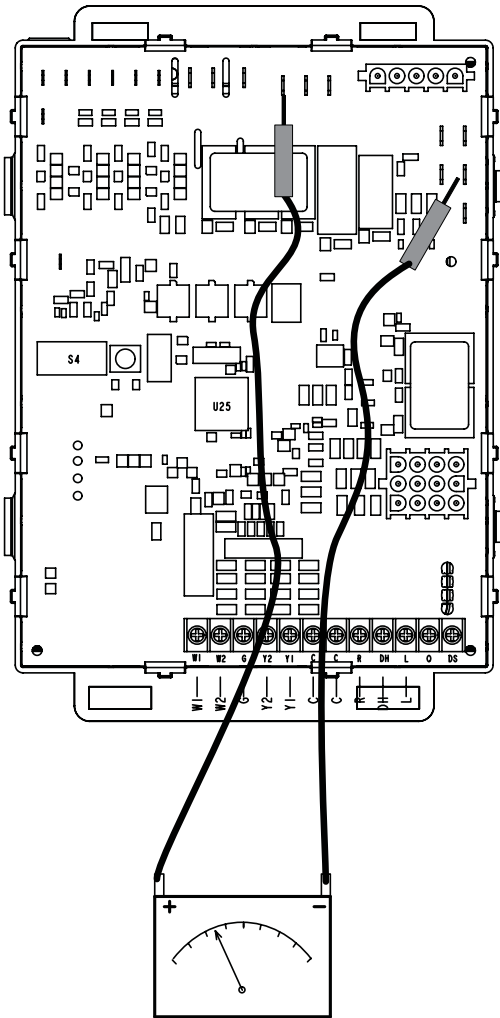

Figure 53.
1. Measure the AC voltage between Line Neutral (spade terminals) and "C" terminal (low voltage terminal block) on the integrated control. See **Figure 53**. A wide variation in the voltage between Line Neutral and "C" as a function of load indicates a poor or partial ground. Compare the readings to **Table 21**. If the readings